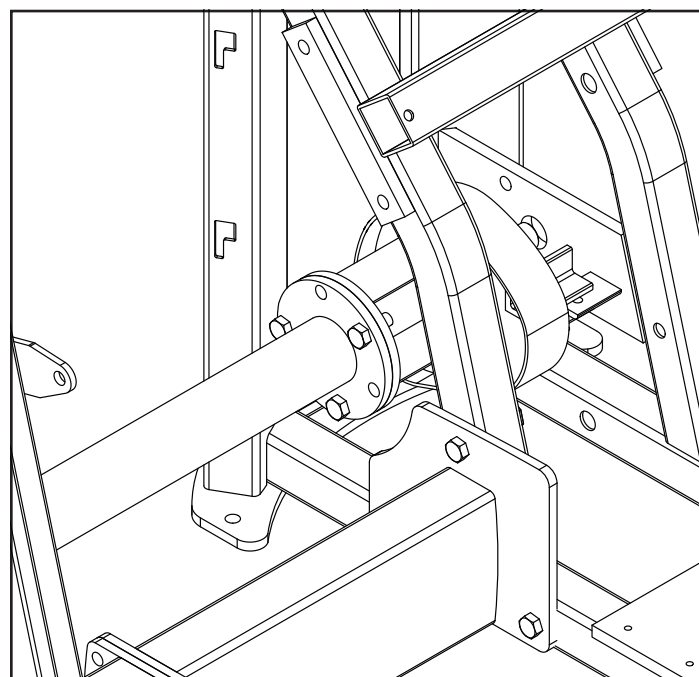

Fig. 3
- 1-3** Align the Seat Frame Weight Drive holes to Tower Weight Drive holes and pins. Insert (3) 1/2 x 1 1/4" bolts into weight drive and (3) 1/2 x 3" bolts into seat frame plate. Carefully align Seat Frame to the Tower and tighten all bolts (See Fig. 3).